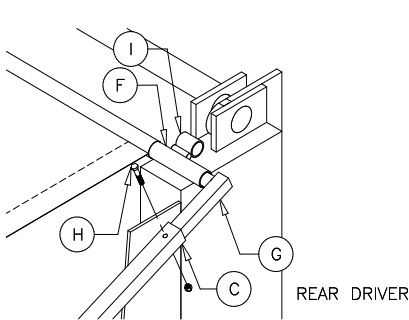
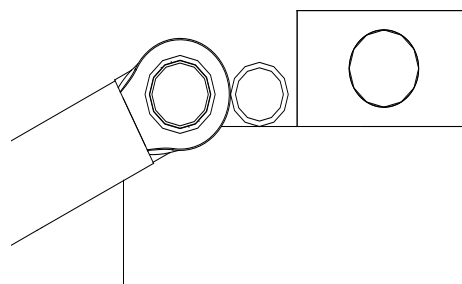
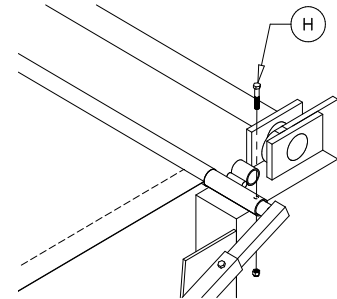

Figure 17
Figure 18
Figure 19
Using a 5/16" drill bit, drill through the bottom and top pivot arm on both sides of the box. Secure the pivot arms with the 5/16"x1-3/4" hex bolt (H) and 5/16" nylon lock nut provided (see Figure 17). Adjust the pivot arms so they are aligned with the sides of the box. Rotate the rear pivot arm cross-member (F) so that the cross-member guides (I) are resting on the top of the box with the cross-member (see Figure 18). Using a 5/16" drill bit, drill through the pivot arm cross member (F) and top pivot arm (G). Secure the pivot arm cross-member to the top pivot arms with the 5/16"x1-3/4" hex bolts (H) and 5/16" nylon lock nuts provided (see Figure 19).